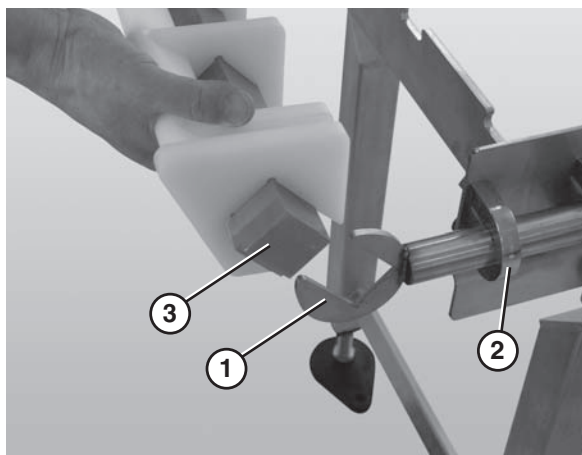

Figure 14
1. Slide the nose bar idler shaft hands (**Figure 14, item 1**) into the take up blocks (**Figure 14, item 2**).
2. Attach the nose bar transfer post (**Figure 14, item 3**) to the nose bar idler shaft hands.